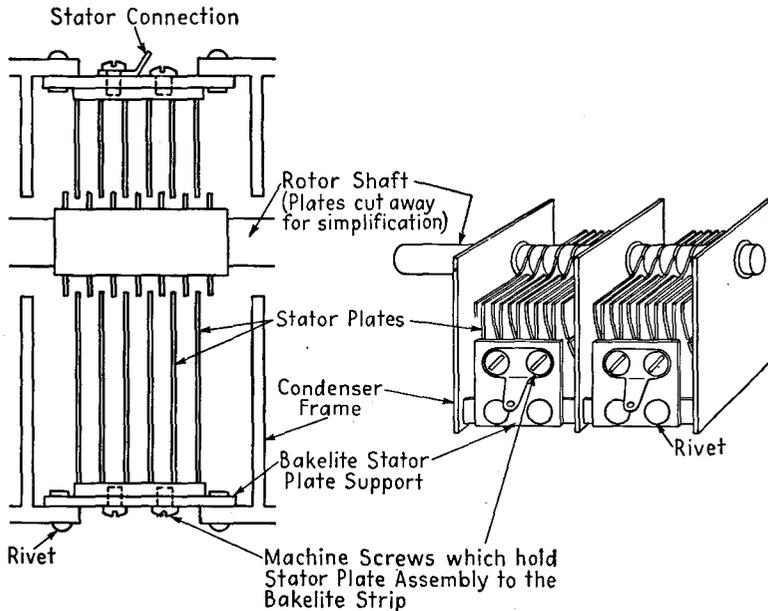
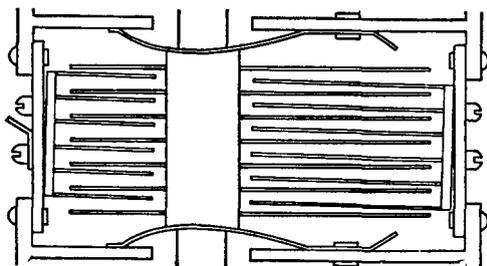

FIG. 14-18.—Method of fastening stator plates in a variable condenser.
Fig. 14-19.—Stator plates out of parallel alignment because of loosened holding screws.
2. *Tighten and align the stator plates.* Examine the insulators that hold the stator plates in position. Figure 14-18 shows a common method of supporting the stator plates. Most condensers have a similar arrangement. The machine screws that hold the assembly together may loosen, making for poor contact with the stator soldering lug and also allowing the stator plates to slip out of parallel alignment. Figure 14-19 represents a condenser where this has happened. To repair this condition, pry the stator plates back into parallel alignment with the rotor plates, making sure at the same time of equal spacing between the plates, and then tighten the screws. Even if the plates have not slipped out of position, the